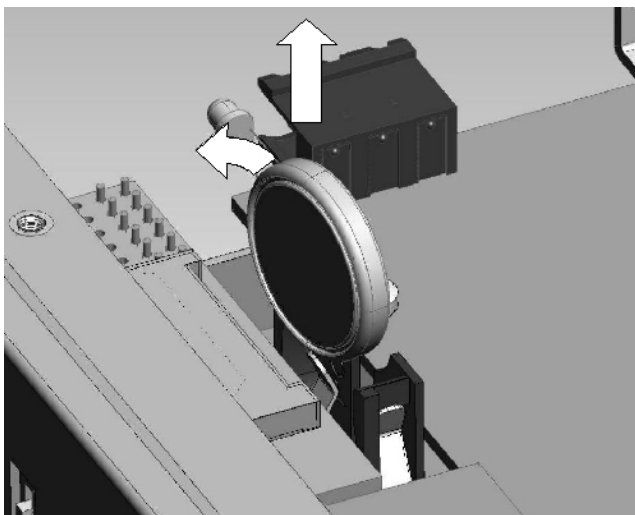

Figure : 13 Removal of buffer battery
- using pliers, remove the battery by rotating it anticlockwise and pulling it upwards as shown in Figure : 13 . The pliers will short-circuit the battery and as a result the battery cannot be used after this operation.